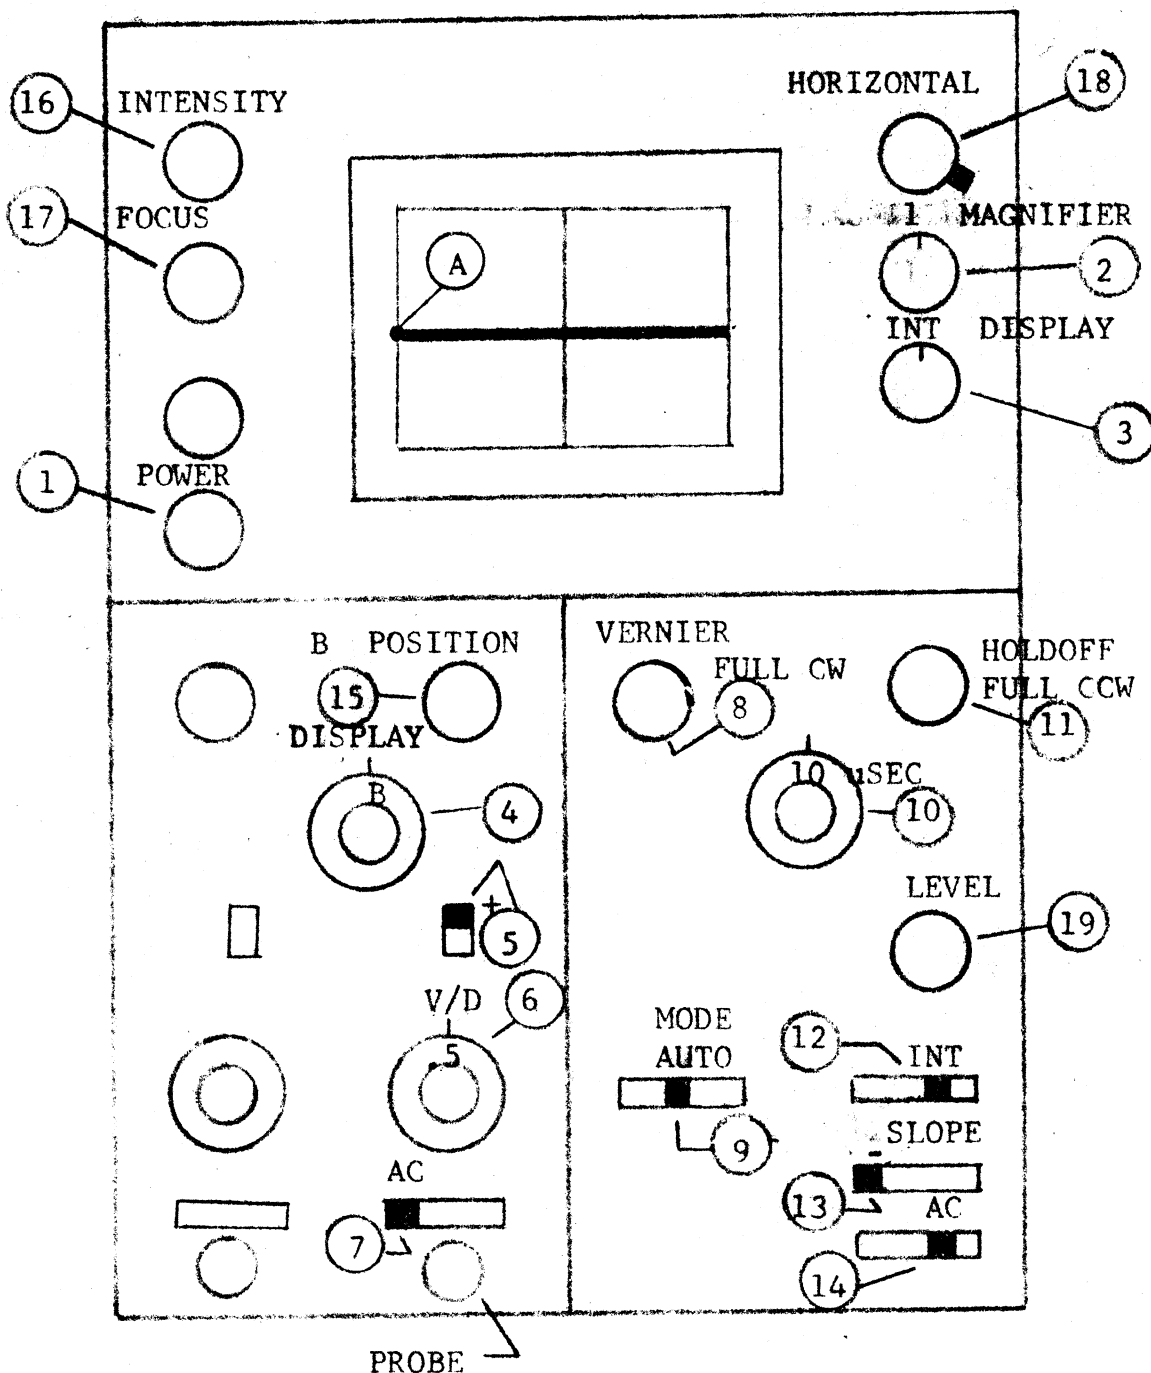

FIGURE 1 SCOPE ADJUSTMENTS
4.1.1 Set the switches up as shown in Figure 1 starting at Step 1 and continuing on through Step 18.
At Step 18 adjust so the trace starts at point A in Figure 1.